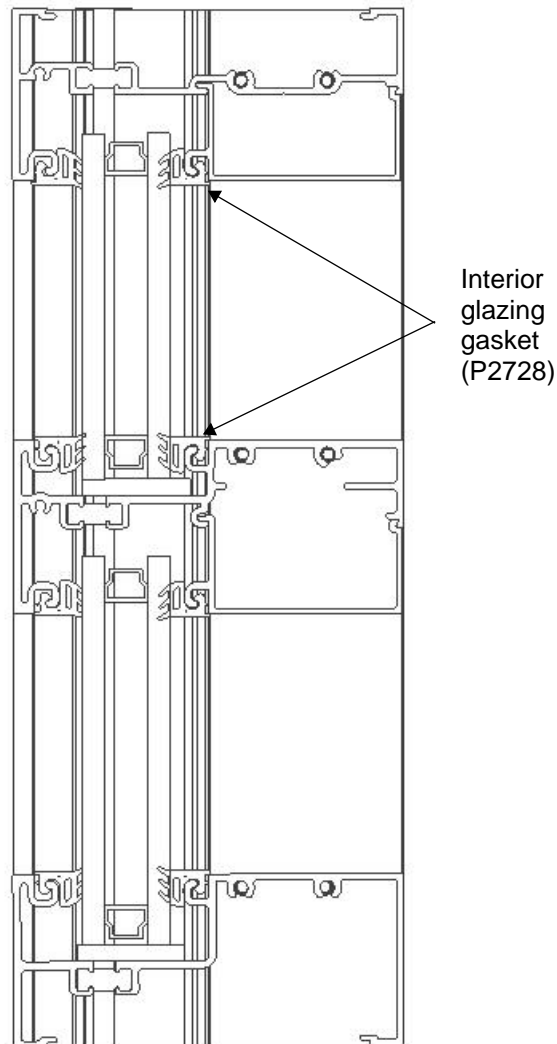

Figure 14: Install the interior vertical gaskets.
- Install the interior vertical gaskets at each end and work toward the center, firmly pushing the gasket in place, as shown in Figure 14.